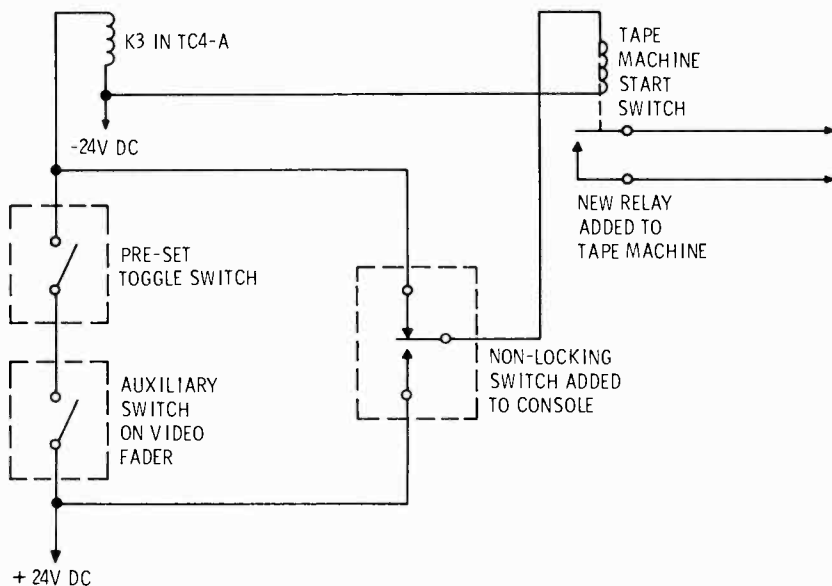

Fig. B-3. TC-4A modifications to add remote start to a conventional audio tape machine.
4. Tape Cue-Up and Remote Start (Fig. B-3)
in the console, the tape machine will also run. (Cartridge tape machines use a momentary contact switching action for starting. The control circuits in the TC-4A are on all the time the circuit is activated, which would prevent stopping of the cartridge machine.) Add a spdt, non-locking switch, wired as shown in Fig. B-3. This arrangement will permit the operator to run up the tape machine until it is properly cued up without activating the audio circuits in the TC-4A.